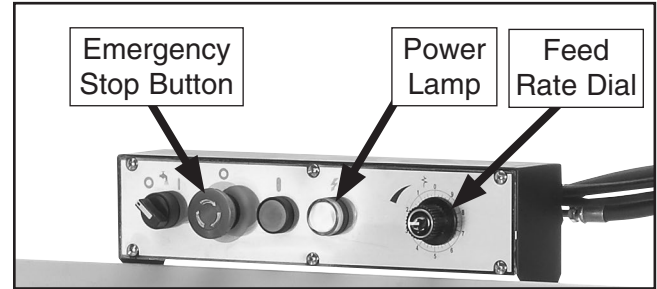

Figure 12. Emergency stop button location.
2. Raise headstock all the way up, and turn feed rate dial (see **Figure 12**) clockwise to "0".
3. Press Emergency Stop button (see **Figure 12**).
4. Connect machine to power by inserting power cord plug into matching receptacle; power lamp (see **Figure 12**) will illuminate.
6. Press ON button (see **Figure 12**) to turn machine **ON**.